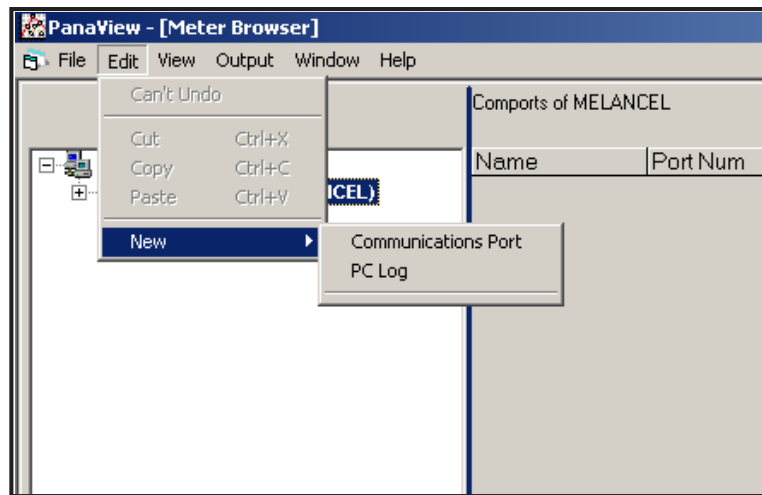

Figure 32: Edit Menu
4. Click on the *New* menu option to select it, and a submenu opens with two choices on it (see Figure 32).